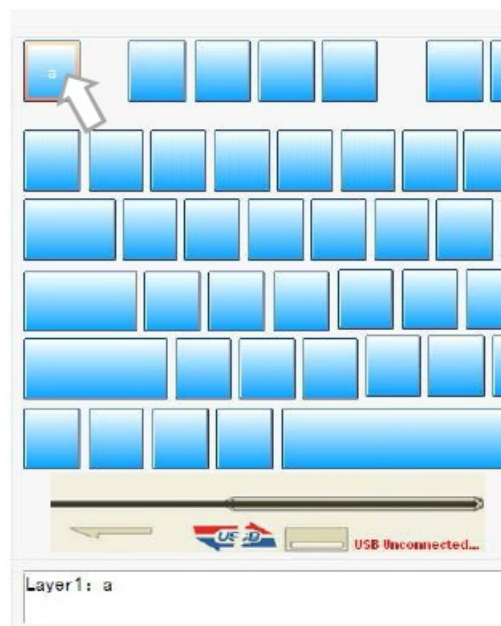

Figure 3.1.7
- You can move your cursor on the programmed key and the text box will be shown “ Layer 1: “ in the main interface, please refer to (Figure 3.1.7)